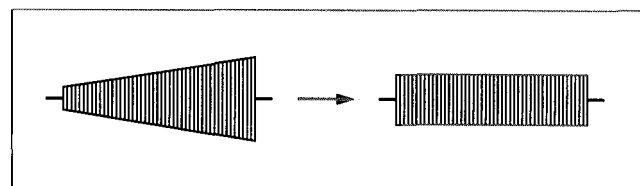

Fig. 3-2-5 PB FM
- (1) Connect an oscilloscope to TP106 and external trigger from TP111 (positive slope).
- (2) Playback the LP stairstep portion of the alignment tape at LP 2 x mode.
- (3) Set the automatic tracking control to the OFF by simultaneously pressing the CH “-” and “+” buttons.
- (4) Adjust for maximum level of the playback FM waveform by depressing CH “-” or “+” buttons.
- (5) Adjust by pressing “M+D” or “M+E” buttons of the presetting unit for the FM waveform is flat as shown in Fig. 3-2-5.
- (6) Adjust for half level of the playback FM waveform from maximum level by depressing CH “-” or “+” buttons.
- (7) Readjust by pressing “M+D” or “M+E” buttons of the presetting unit for the FM waveform is flat as shown in Fig. 3-2-5.
- (8) Record the colour bar signal by LP mode and play it back in the LP FWD slow mode.
- (9) Repeat steps (4) and (5).
- (10) Depress the STOP button.